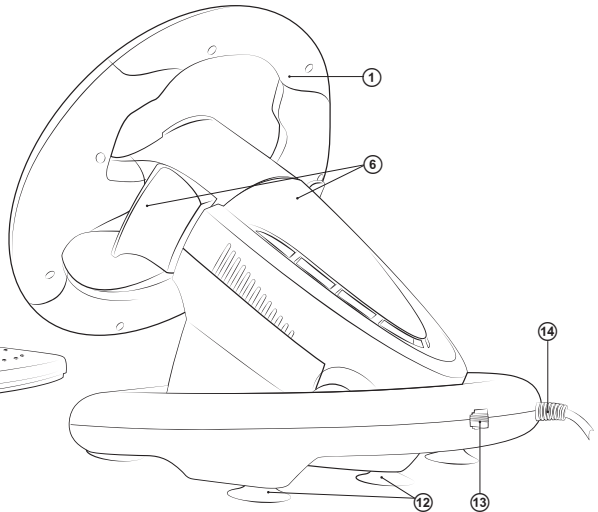

Fig. 4. Rear view
- Connect pedal unit to the device (Fig. 4) via cable of the pedal unit to RJ-11 jack ⑬, then connect USB cable ⑭ of the device to the USB port of the computer.